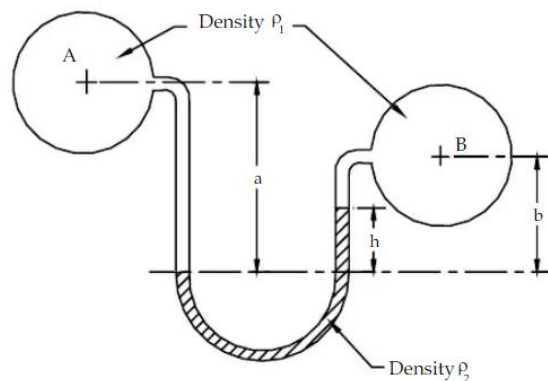

Figure Q21
b) A U-tube manometer, as shown in Figure Q21, measures the difference of pressure between two points A and B in a liquid of density ρ_1 . The U-tube contains mercury of density ρ_2 . Calculate the difference of pressure if $a=1.5$ m, $b=0.75$ m and $h=0.5$ m and if the liquid at A and B is water and $\rho_2=13.6\rho_1$. [10]